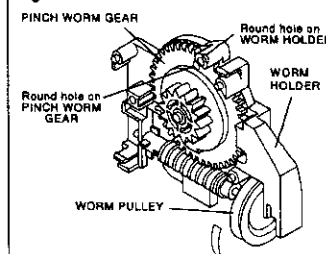

Fig. 2-17-3
- 3 Turn the WORM PULLEY shown in Fig. 2-17-3 SO that the round hole of the PINCH WORM GEAR matches with that of the WORM HOLDER.